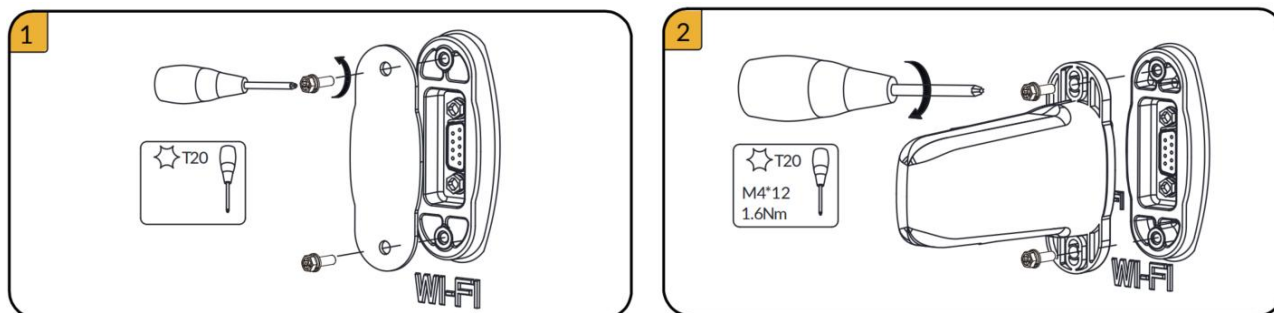

Figure 5-7 Installation diagram of Wi-Fi adapter
1. Remove the protective cover of Wi-Fi dongle port at the left of the inverter. Refer to 1 in Figure 5-7.
2. Tighten the Wi-Fi dongle onto the inverter with two M4*12 screws provided (Tool: T20 screwdriver, torque: 1.6Nm). DO NOT OVERTIGHTEN – do not damage the plastic housing of the Wi-Fi dongle. Refer to 2 in Figure 5-7.